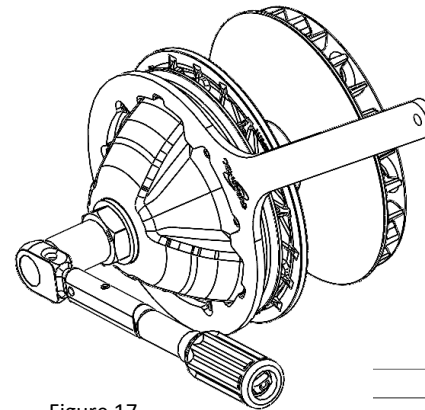

Figure 17
- Use a torque wrench and a 36 mm socket to tighten the pulley nut (17) (figure 17) (for replacement pulleys, see the tightening torque chart by pulley number on the CVTech website – for OEM pulleys, see your owner's manual).